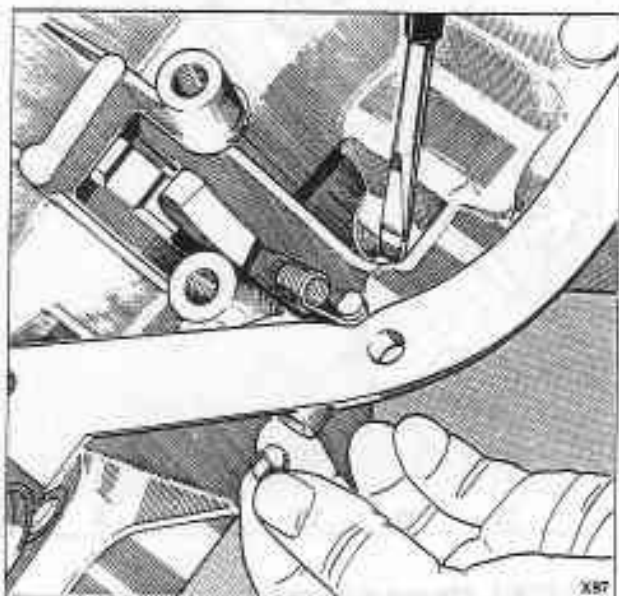

Fig. T18-2 Removing the cup plug
14. Remove the shaft retainer from the parking pawl shaft. Remove the parking pawl shaft cup plug by placing a screwdriver between the parking pawl shaft and the casing; levering outwards (see fig. T18-2).